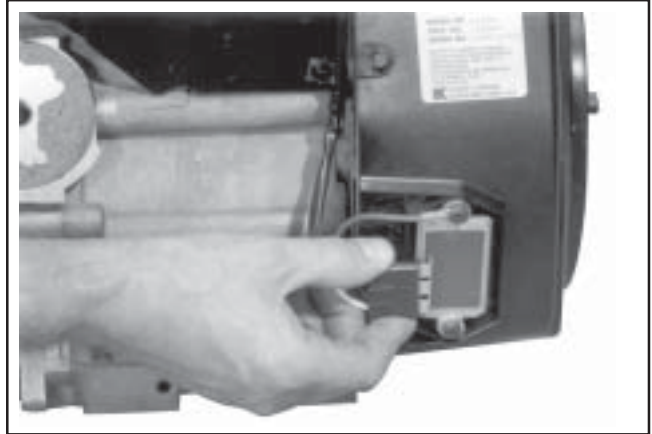

**Figure 9-30. Removing Electric Starter Motor.**
2. Remove the two hex flange screws. See Figure 9-30.